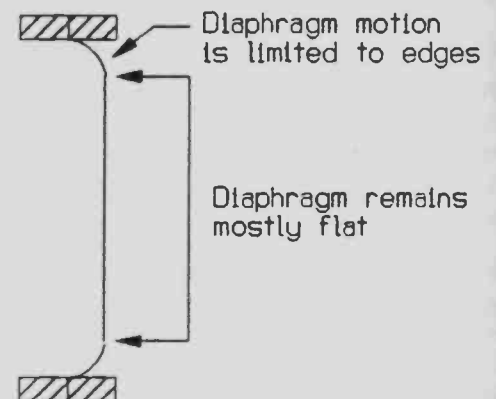
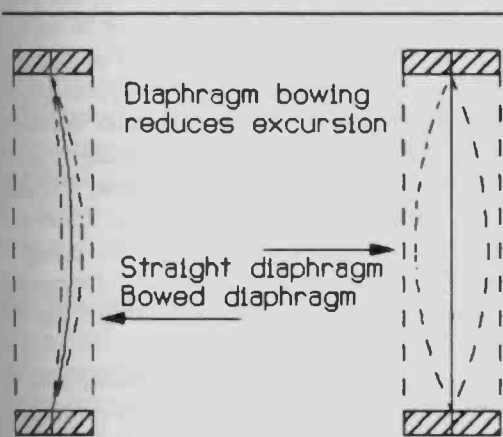

FIGURE 5-7: Diaphragm shape.
FIGURE 5-8: Diaphragm bowing reduces excursion.
The elastic edge width varies depending on excursion, but is generally about  $\frac{1}{4}$ -inch wide around the perimeter of the free diaphragm area. This piston motion is superimposed on the slight arc of the diaphragm caused by the polarizing voltage. The diaphragm has a complex shape, which I've simplified in Fig. 5-7 for clarity.
**DIAPHRAGM BOWING.** The diaphragm can't use the total D/S spacing. As discussed previously, the polarizing voltage forces the diaphragm to bow slightly. This reduces excursion by the amount of diaphragm offset. *Figure 5-8* shows a highly exaggerated view of this. It also shows the diaphragm as if it were moving in an arc for clarity, although, as previously shown in *Fig. 5-7*, it has a piston motion.